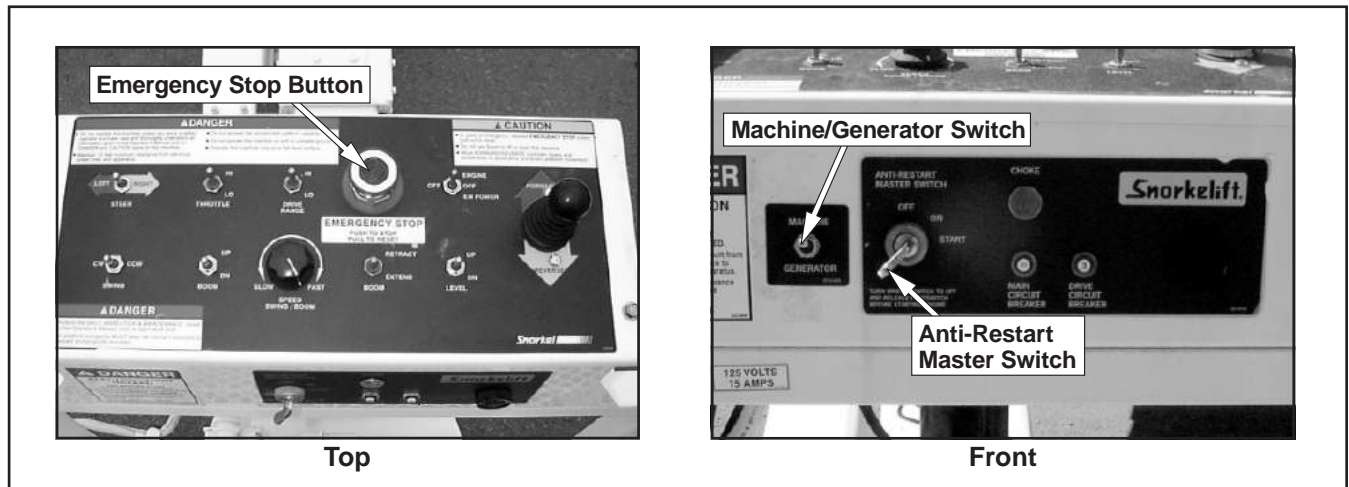

Figure 8.3—Upper Controls
6. Pull the emergency stop button out (refer to Figure 8.3).
2. Start the engine and place the machine/generator selector switch (refer to Figure 8.3) in the generator position.